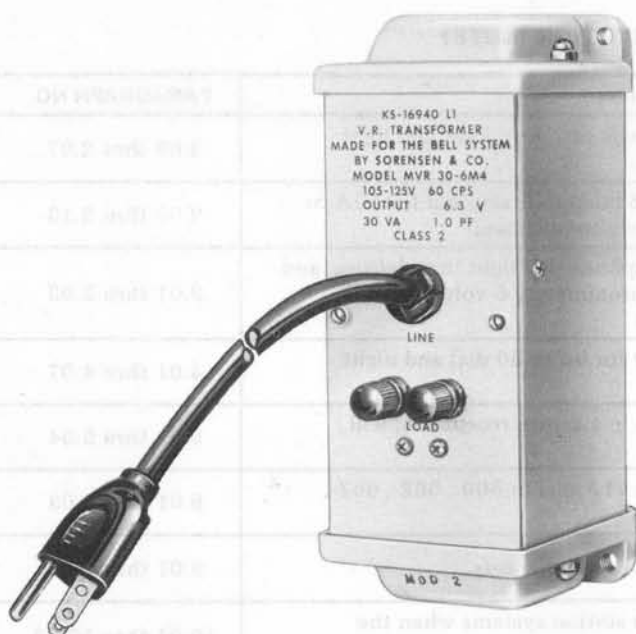

Fig. 9—KS-16940L1 V.R. Transformer
**4.01** KS-16940L1 V.R. transformer (Fig. 9) is primarily for use as centralized dial light power source to provide regulated power for dial lights and night lights on telephones. It will power 30 dial light telephone sets.